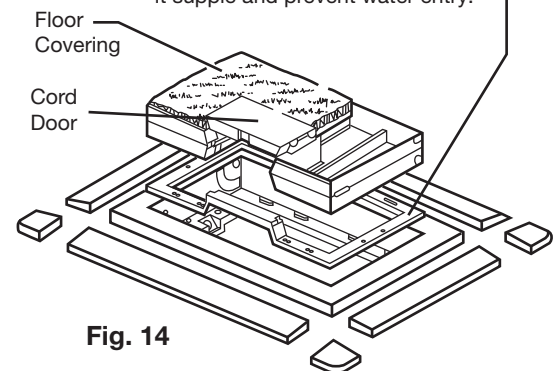

Fig. 14
- b. **Tile:** Carpet flange may be removed using a sawsall, jig saw or saber saw to cut along the score lines. Avoid using pliers or similar tools to break away the flange. (**Fig. 14**) If option of removing carpet flange is selected, set Cover so top surface of flange is at finished tile height. Work tile to Cover flange.
- d. **Tile or Carpet:** Cover may be inverted and a section of carpet or tile installed in the Cover to make the Cover less noticeable. Use template on page 4, Fig. 17, to size section of floor covering to be installed in inverted cover. If inverted cover option is chosen, small Cord Door must be removed and re-installed on the opposite side of the cover. (**Fig. 14**)